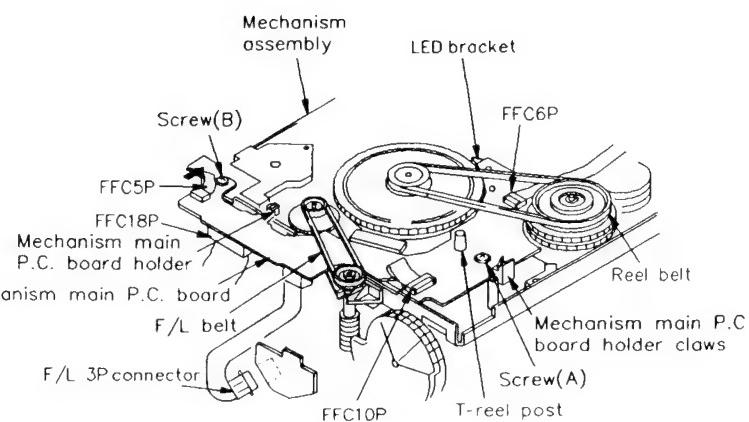

Fig. 4-15-3
- Disconnect FFC5P from the mechanism assembly, rear side by pulling it in direction shown by the arrow. Next, remove the F/L belt and the reel belt. (Fig. 4-15-3)